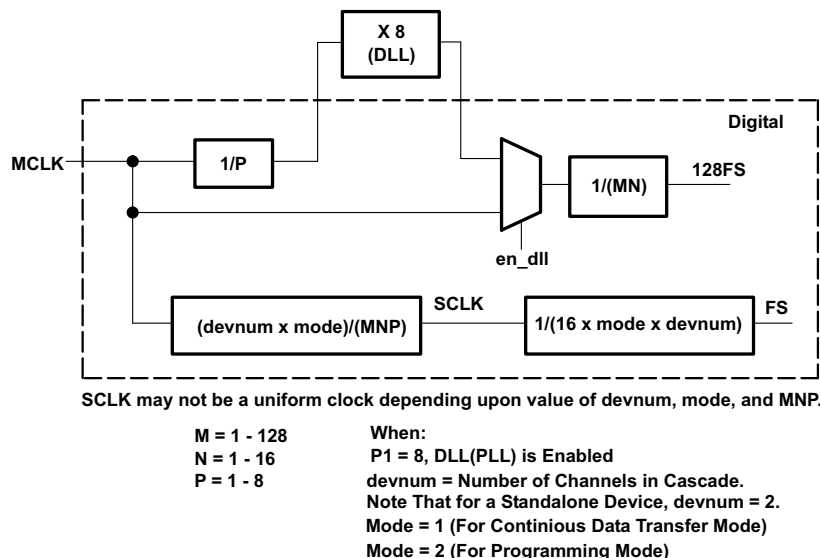

Figure 18. Clock Timing
- The fine sampling rate needs an on-chip phase lock loop (frequency multiplier) to generate internal clocks. The output of the PLL is only used to generate internal clocks that are needed by the data converters. Other clocks such as the serial interface clocks in master mode are not generated from the PLL output. The clock generation scheme is as shown in Figure 18. The PLL requires the relationship between MCLK and P to meet the following condition:  $10 \text{ MHz} \leq (MCLK/P) \leq 25 \text{ MHz}$ .